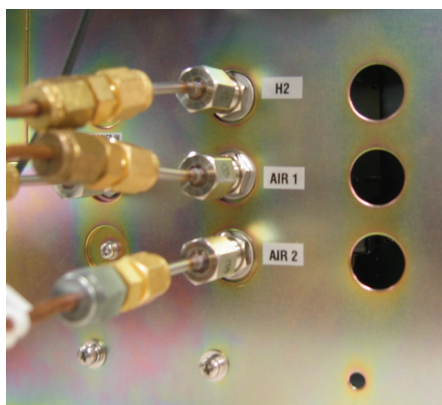

Figure 4.34. Label the Aux APC Gas Connectors
3. Attach the **H2** label immediately to the right of the top Aux APC gas connector, the **Air1** label to the right of the middle connector, and the **Air2** label to the right of the bottom connector on the back of the GC at the Aux APC connections (Figure 4.34).